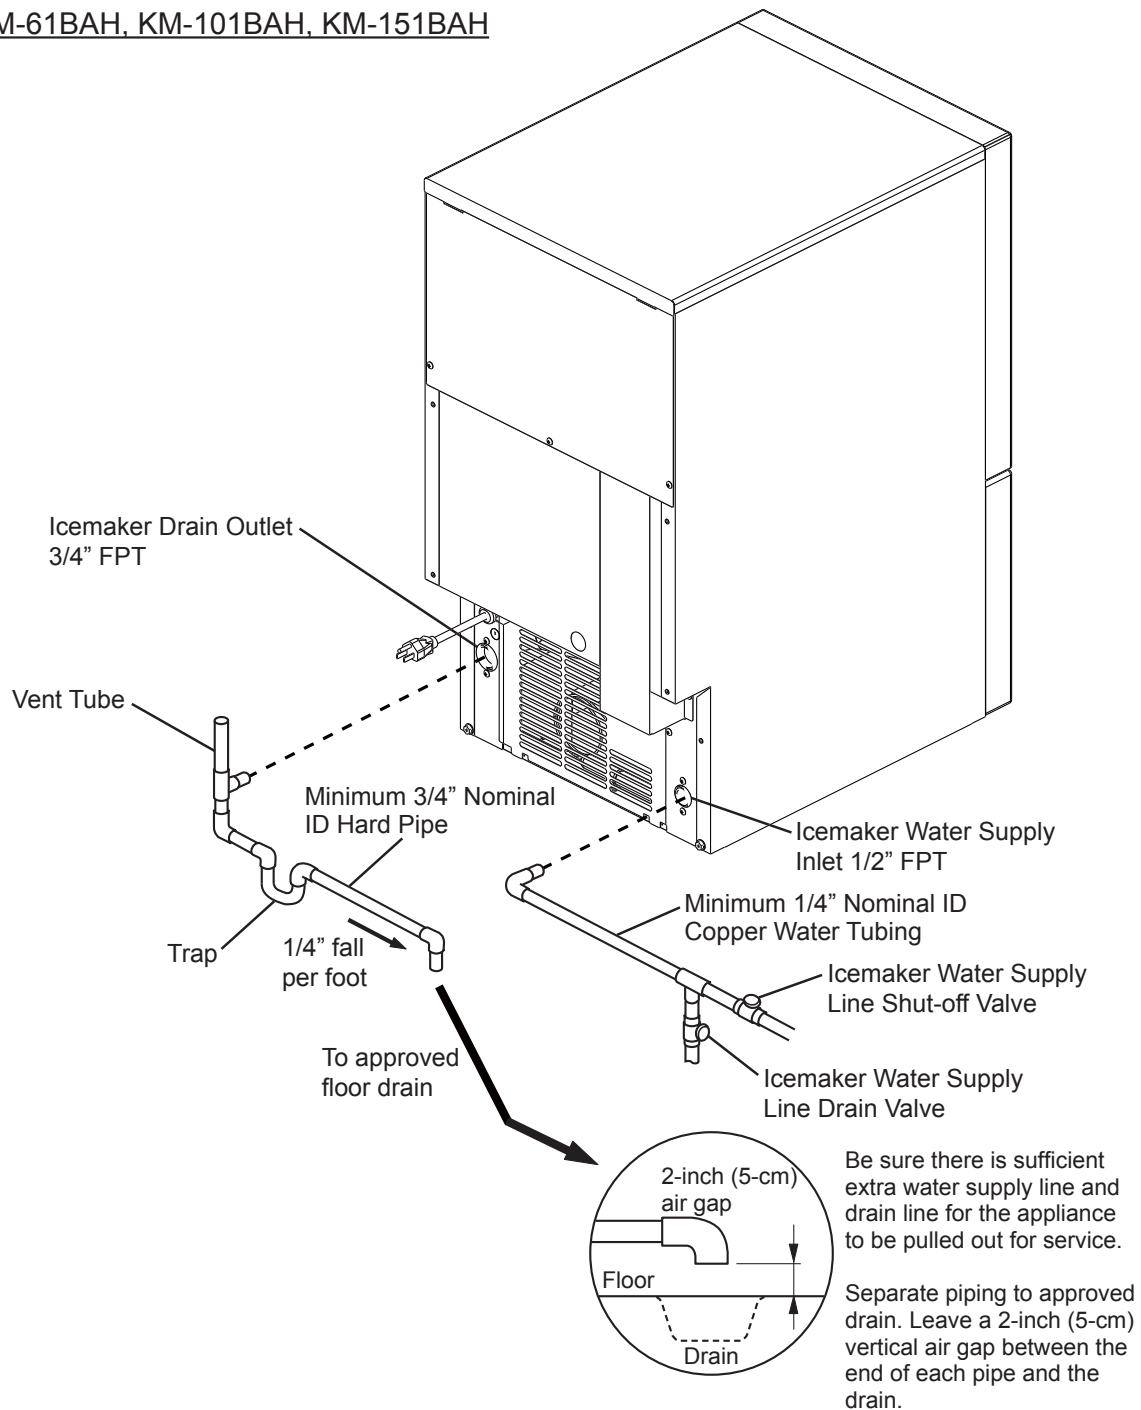

Fig. 4
F. Water Supply and Drain Connections - See Fig. 4, 5 or 6